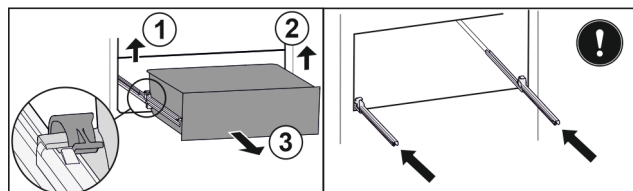

Fig. 152
- ▶ Lift left clamp and simultaneously pull drawer forwards on the left. *Fig. 152 (1)*
- ▶ Lift right clamp and simultaneously pull drawer forwards on the right. *Fig. 152 (2)*
- ▶ Remove drawer to the front. *Fig. 152 (3)*